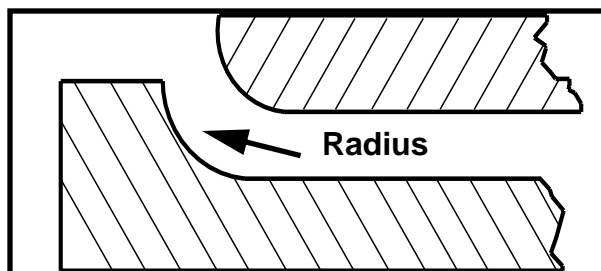
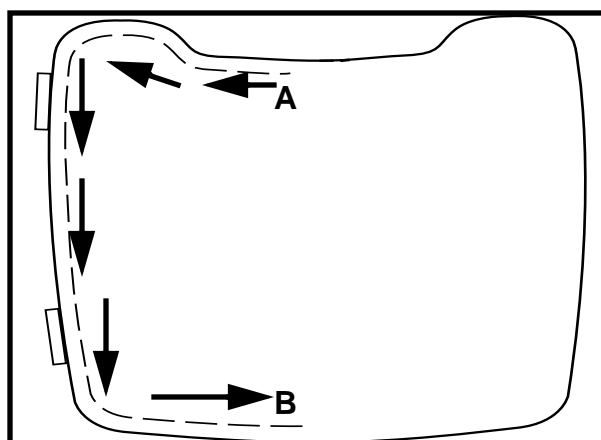

Figure 2.
Figure 3.
6. See Figure 2. Distribute a thin coat of adhesive to both a supplement gasket section and to radius of existing gasket in which supplemental gasket will be applied.
7. Refer to Figure 3. Starting at point (A), form supplemental gasket section into radius (Figure 2) of existing gasket stopping a point (B). Trim gasket using razor blade or other suitable cutting tool to obtain a uniform front to back seal. Do NOT stretch supplemental gasket section. Allow the gasket section to lay naturally on the existing gasket.